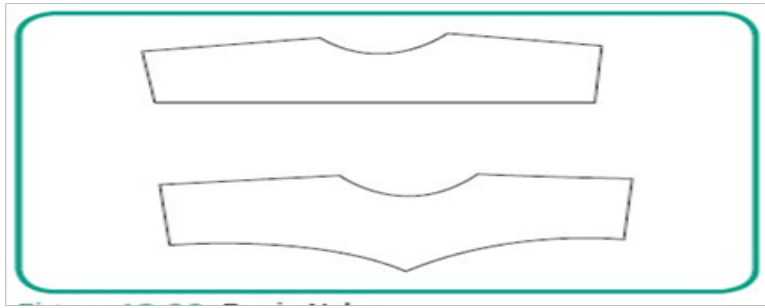

*Fig: 2.29 Basic Yoke*
**Example:** Bodice block of a body front cut half way through to add with gathers to the rest of the garment. For drafting yokes take a bodice pattern and mark from the shoulder to the center of the front bodice. This technique can be used to construct 'V' shaped and circular shaped yoke. To construct a straight yoke, marking should be made according to the length of yoke from arm scye to center front, (Figure 2.29).